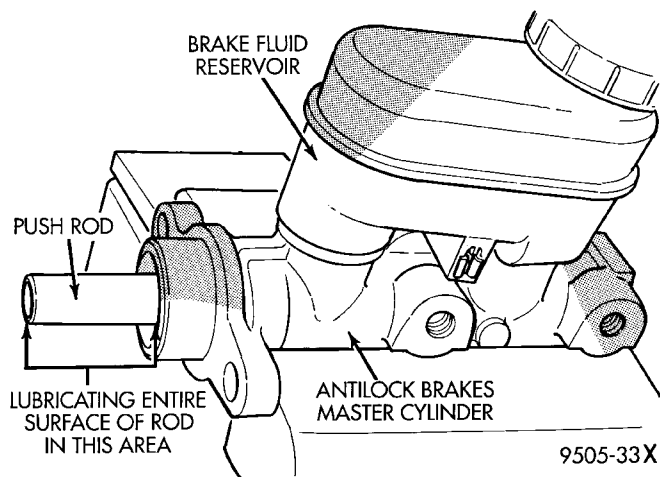

Fig. 20 Lubricating Master Cylinder Push Rod
(12) Lubricate master cylinder push rod as indicated in (Fig. 20) only using **Mopar Dielectric**